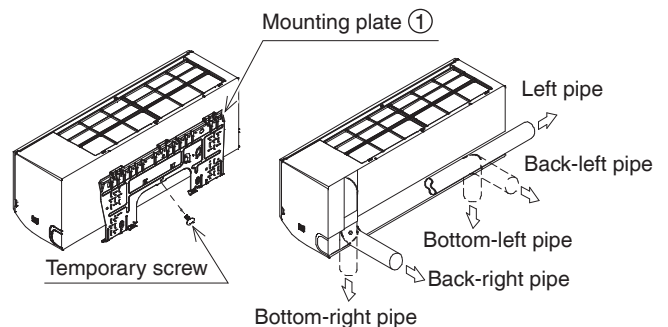

Fig. 3
- (1) Open a through hole.**
- The refrigerant pipe and drain hose can be passed out in one of 5 directions: left, bottom-left, back-left, bottom-right, and back-right. **(Refer to Fig. 3)**
- Using the paper pattern for installation ⑨, choose where to pass the piping out and open a through hole in the wall. Open the hole so that there is a downward slope for the drain piping. (See “7. DRAIN PIPING WORK”)
- (2) Remove the mounting plate ① from the unit and attach to the wall.**
(Refer to Fig. 3)
(1) Back-right, or bottom-right piping.